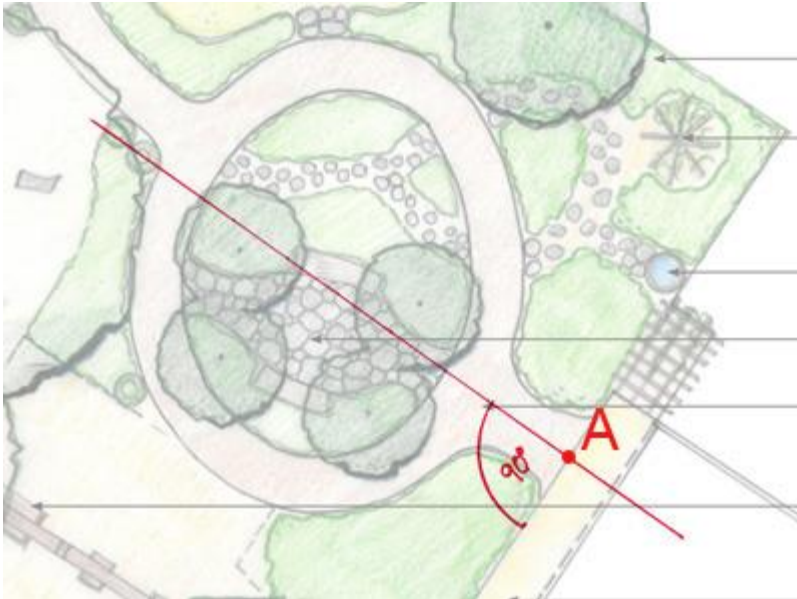

Figure 1.
- **Using a pencil and the scale as a straight edge, mark the point of beginning (A) and baseline on the plan.** All other dimensions and measurements will be taken from the baseline (red line in Figure 1). There are two common ways to setup a baseline.